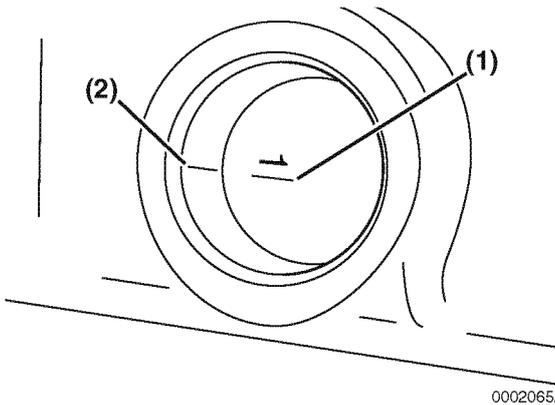
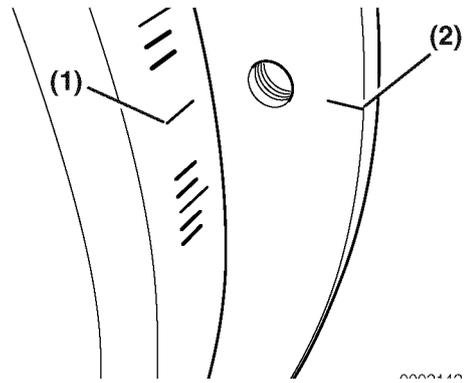
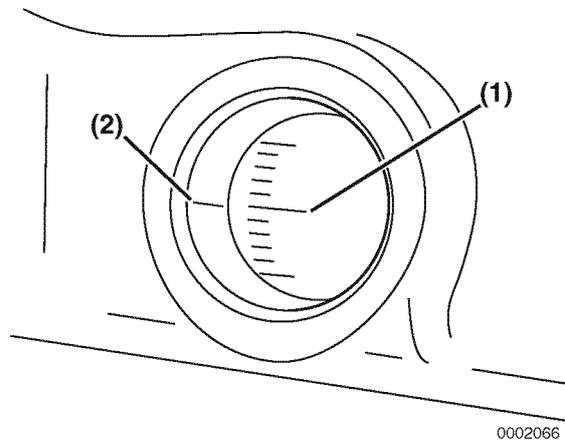

Figure 7-25
Figure 7-26
Figure 7-27
9. Highlight the timing reference mark on the flywheel housing (Figure 7-25, (2)) or engine back plate (Figure 7-26, (2)). Highlight the TDC (Top Dead Center) mark (Figure 7-25, (1)), (Figure 7-26, (1)) on the flywheel.
10. Highlight the target timing mark (Figure 7-26, (1)), (Figure 7-27, (1)) on the flywheel timing grid as determined in the Fuel Injection Timing Chart below.
18. Check the position of the flywheel target timing mark (**Figure 7-27, (1)**) on the flywheel grid in relation to the timing reference mark (**Figure 7-27, (2)**) on the flywheel housing or back plate. If the two marks are aligned, the fuel injection timing is correct. If the marks do not align, the fuel injection timing must be adjusted. See *Adjusting Fuel Injection Timing on page 7-22*.